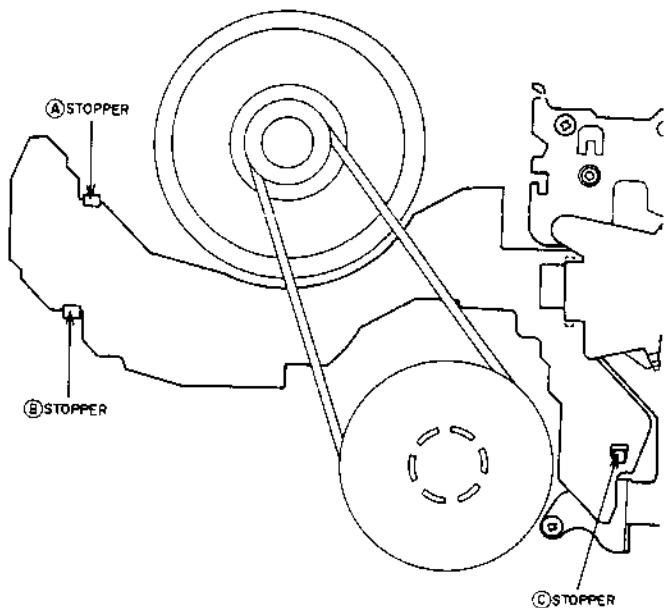

Fig. 4-6
3) Release the Ⓒ, Ⓓ, and Ⓔ stoppers as shown in Fig.4-6. Then remove the SENSOR PCB.